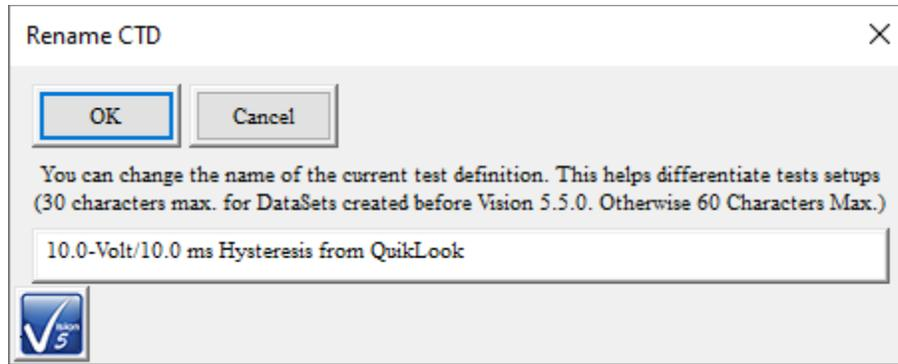

Figure 3 -Name the CTD.
Step 4: Click *OK*. The *DataSet* will be created and opened. A dialog will appear in which to name the Current Test Definition (CTD) and form the base name for the Executed Test Definition (ETD - **Figure 3**). The Hysteresis Task, configured as it was in the QuikLook execution, will appear as the single Task in the Current Test Definition (CTD). A single Executed Test Definition (ETD) will appear in the Archive. The ETD holds the single Hysteresis Task, configured as in, and containing data measured by, the QuikLook execution. The *DataSet Log* window will open and will contain an indication that the Hysteresis Task was added to the *DataSet*.